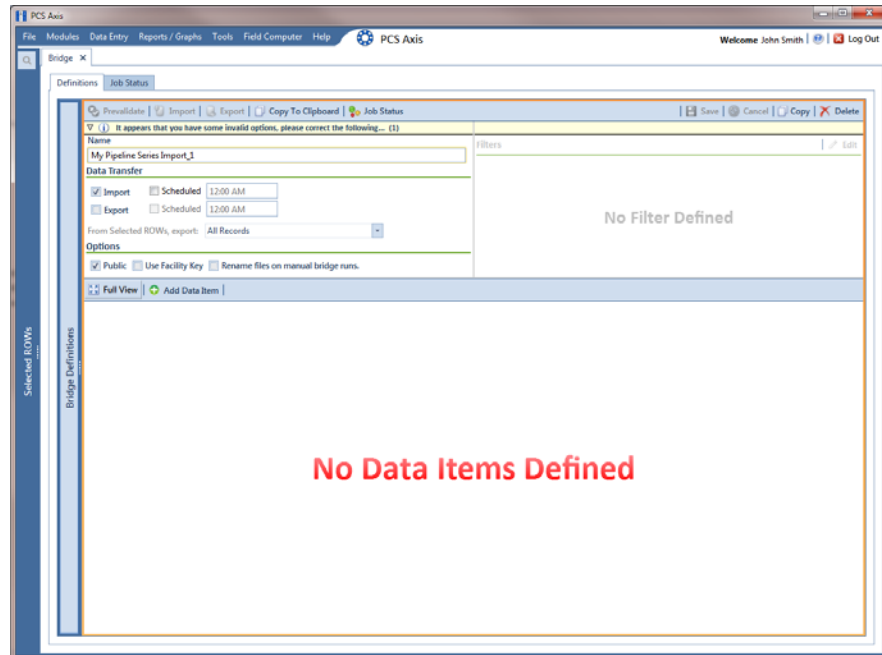

Figure 10-50. Bridge Import Definition
- 5 Set properties in the *Options* group box as follows (Figure 10-50, page 506):